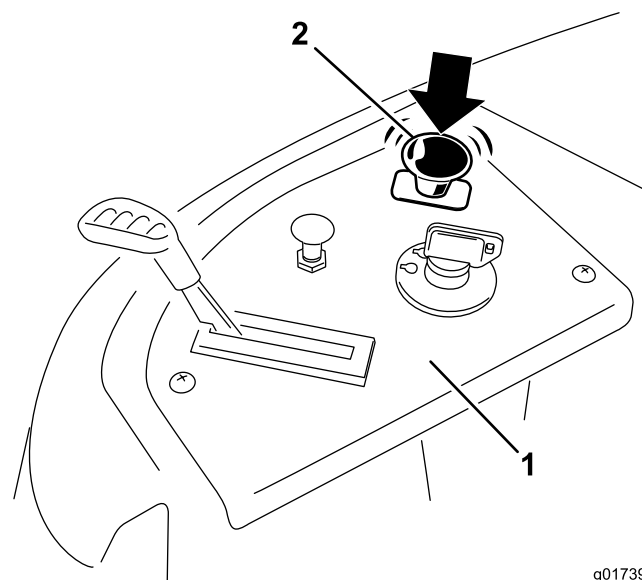

Figure 15
Push down on the blade-control switch to move it to the Off position, and disengage the blades (Figure 15).
3. Disengage the blades by moving the blade-control switch to Off (Figure 15).